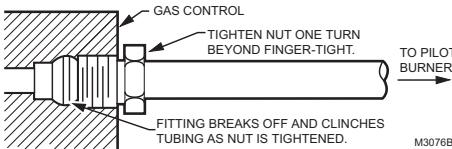

Fig. 6. Always use new compression fitting
4. Push tubing into the pilot gas tapping on the outlet end of the control until it bottoms. While holding tubing all the way in, slide compression fitting into place and engage threads. Turn until finger tight. Then tighten one more turn with wrench. Do not overtighten. Refer to Fig. 6.